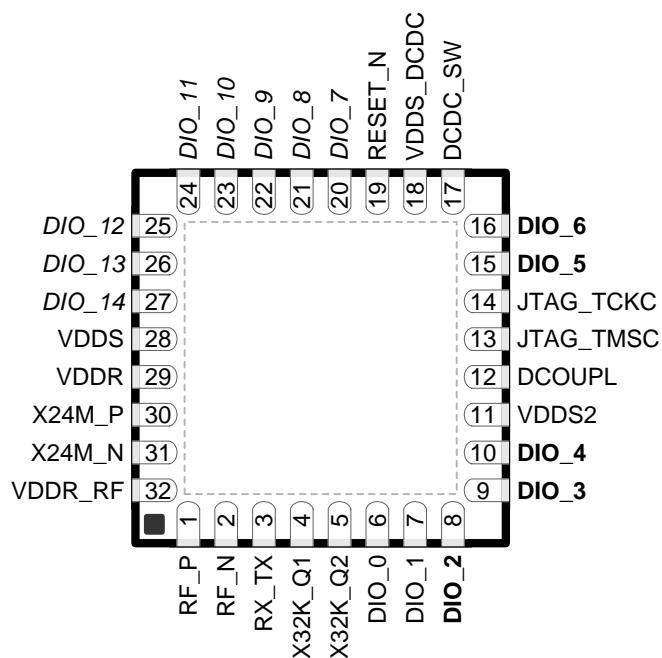

Figure 4-2. RHB (5-mm x 5-mm) Pinout, 0.5-mm Pitch
• Changed <a href="#">Figure 4-2</a> , corrected typo in pin name.....	<a href="#">9</a>
• Added receive parameters for 431-MHz to 527-MHz band in <a href="#">Receive (RX) Parameters, 431 MHz to 527 MHz</a> .....	<a href="#">17</a>
• Added transmit parameters for 431-MHz to 527-MHz band in <a href="#">Transmit (TX) Parameters, 431 MHz to 527 MHz</a> .....	<a href="#">19</a>
Figure 4-2 shows the RHB pinout diagram.
I/O pins marked in Figure 4-2 in **bold** have high-drive capabilities; they are as follows:
I/O pins marked in Figure 4-2 in *italics* have analog capabilities; they are as follows: